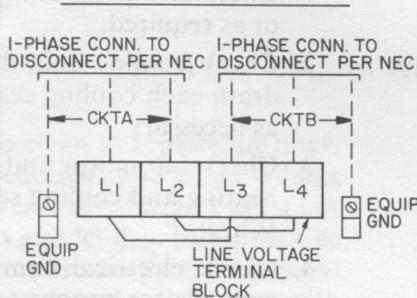

Fig. 9 — 40QB Heating and Cooling Unit Line Power Connections
Step 7 — Install Branch Circuit Disconnect Switch(es) per NEC of adequate size to handle unit current. Locate disconnect switch(es) within sight of and readily accessible to unit per section 440-14 of National Electrical Code (NEC). See Table 5 for supply circuit options. If one line power circuit using one disconnect switch is required, attach an accessory line power connection conversion lug set (Part No. 40FS900271) to fuse terminals in electric heater. See Fig. 9.